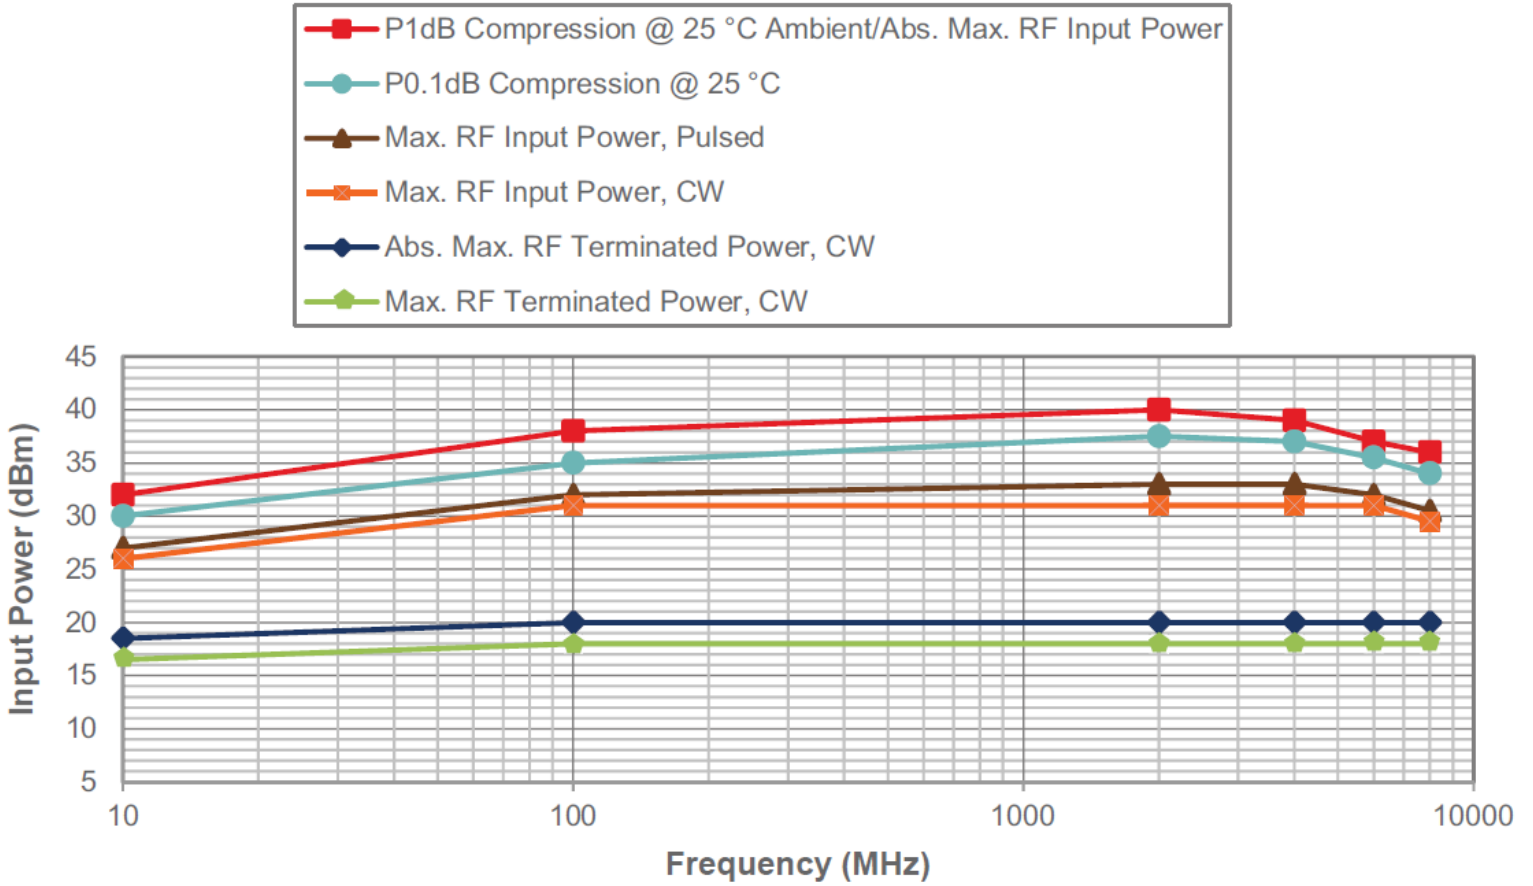

Figure 2. Power derating curve, 10 MHz–8 GHz, –55 °C to +125 °C ambient, 50Ω
The power derating curve in Figure 2 shows the P1-dB compression, P0.1-dB compression, maximum RF input power (pulsed), maximum RF input power (CW), absolute maximum RF terminated power (CW), and the maximum RF terminated power (CW).